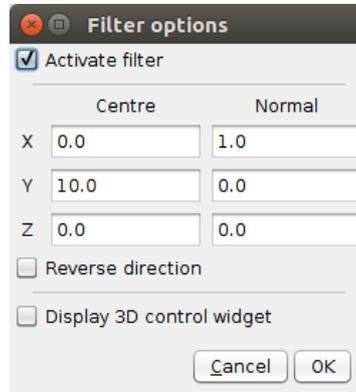

Figure 11: Clipping dialog box
- The two buttons on the right side allow performing actions on the currently selected shape(s). The first one () opens a dialog box to apply a transformation to all the elements currently selected (more details in section 5.4). The second one () offers the possibility to use a clipping filter. This button triggers the apparition of a dialog box allowing the user to set the parameters of the clipping filter, see Figure 11. This filter performs a cut in the geometry to view more precisely the inner geometry of the modelled system. The clipping is set with the coordinates of a centre point and a normal direction. It will keep the geometric representation of the selected element in the half-space defined by this point and the normal. To get a more interactive setting, you can selected the "Display 3D control widget" that will display an interactive control in the 3D view to change the clipping. This 3D control of the filter are materialised by a sphere (representing the centre of the clipping